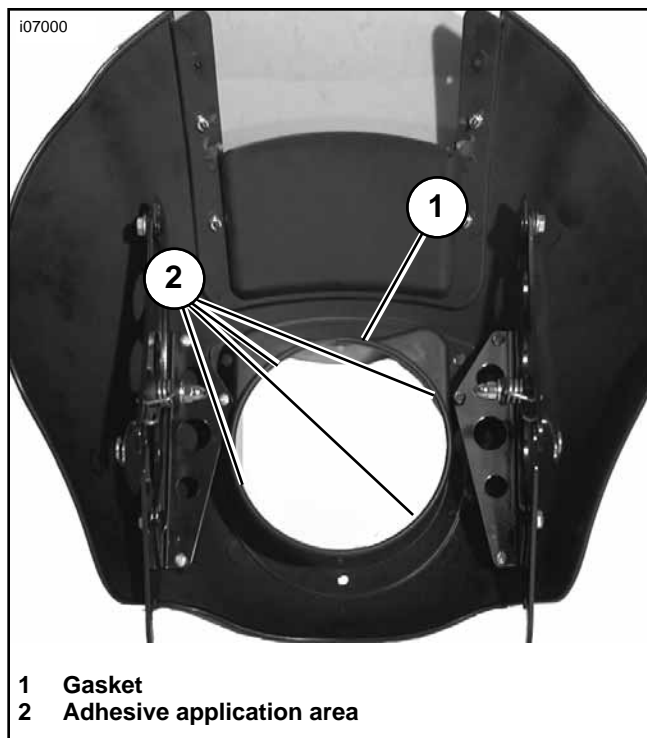

Figure 1. Inner view of fairing
- See Figure 1. Attach gasket (1) to the edge of the fairing at the headlamp opening as shown. Place the gap in the gasket at the top of the headlamp opening, then trim the gasket to the proper length so that the ends meet.